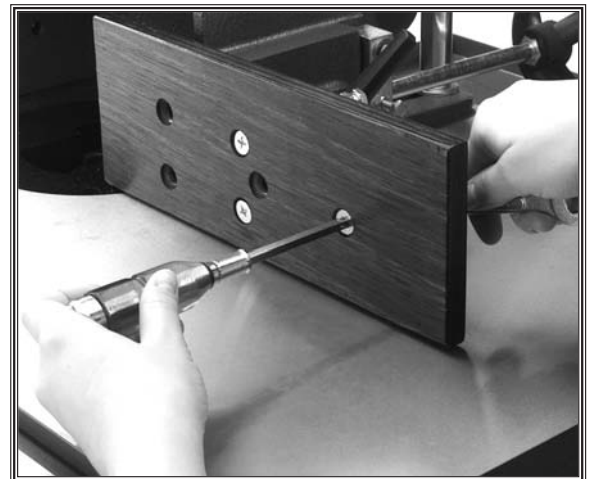

Figure 13. Attaching fence boards.
6. Attach the fence boards to the fence brackets with (6) $\frac{5}{16}$ "-18 x 1" Phillips head screws, $\frac{5}{16}$ " flat washers, and $\frac{5}{16}$ "-18 hex nuts, as shown in **Figure 13**.